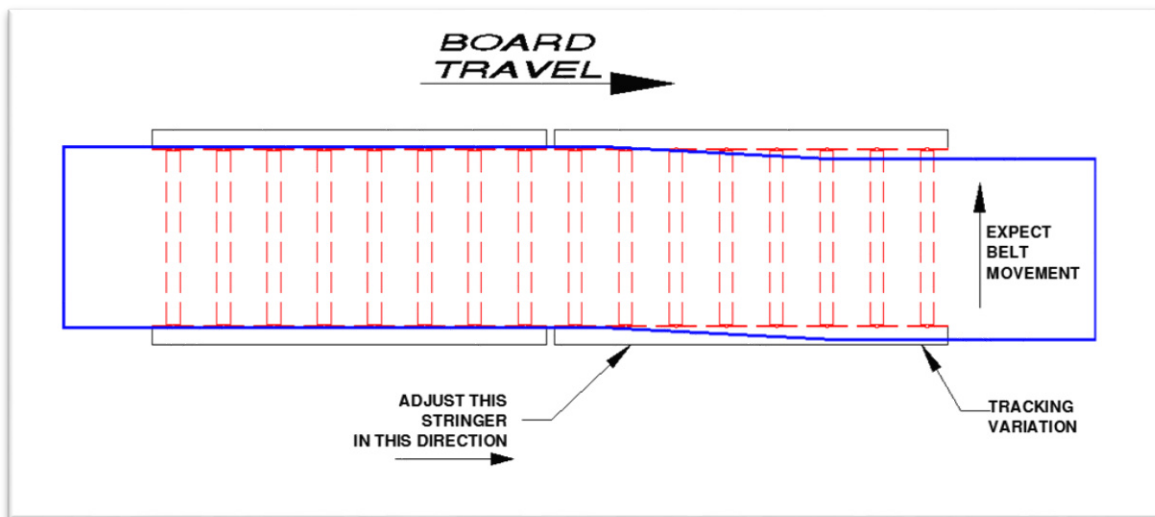

Figure 21 – Determining Which Stringer to Adjust and Expected Results
- Figure 21 indicates this principle. The reverse obviously is true.